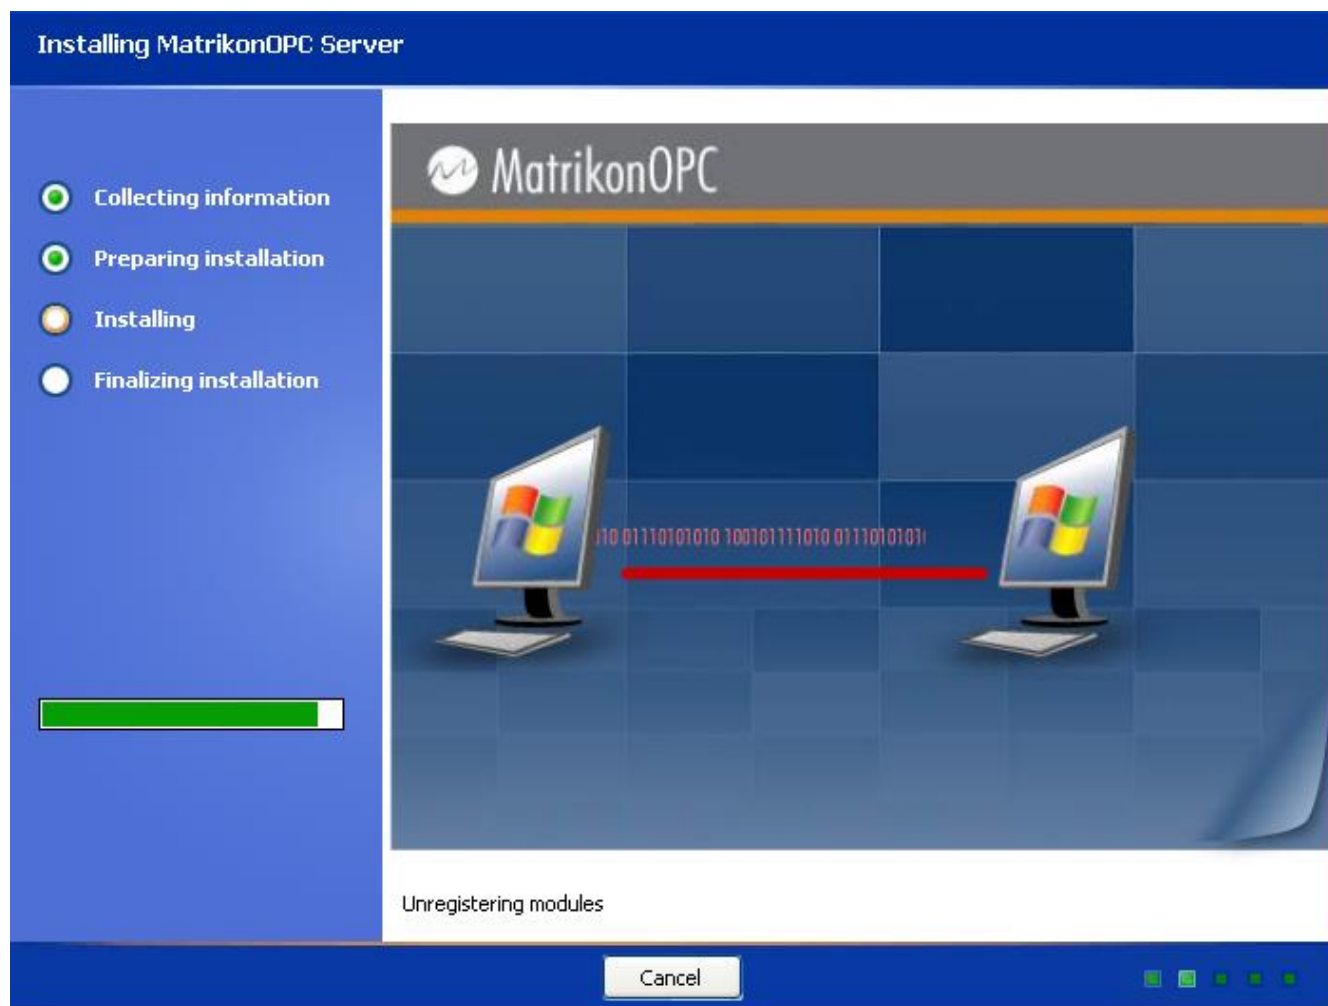

Figure 76 - Installing MatrikonOPC Server Screen
19. Click on the **Next** button. The **Installing MatrikonOPC Server for Mitsubishi PLCs** screen (Figure 76) appears, installation begins, and the product files are copied to the computer.